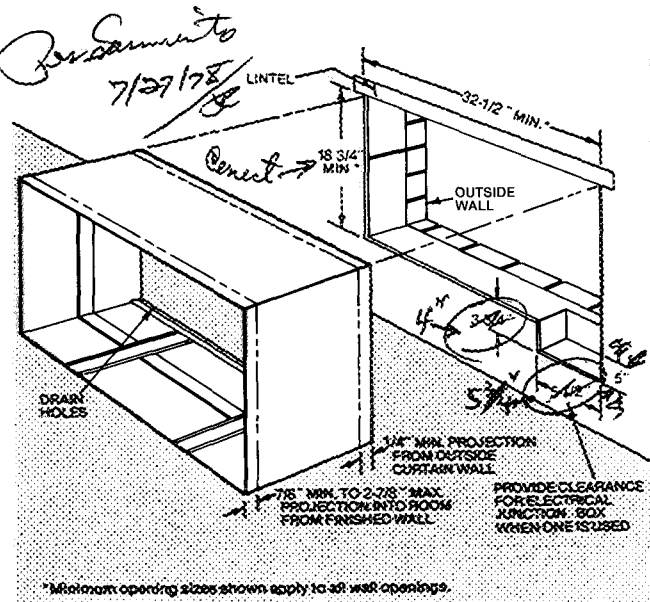

Fig. 1 - Wall Sleeve Installation
**Provide an Opening** using good construction practices. See Fig. 1 for minimum dimensions. Use a lintel to support the wall above the opening.
**The Accessory Electrical Junction Box** must be used with all 277-volt units and with all permanently connected 230/208-volt units. When using the junction box, provide clearance as shown in Fig. 1. Complete installation instructions are shipped with this accessory.
**Weatherproofing** to make the installation weather-tight is accomplished by sealing any openings between the wall and the sleeve. *Do not plug the 2 drain holes in the bottom flange on the outside of the wall sleeve (Fig. 1)* If the exterior wall projects beyond the sleeve, install a drip edge.